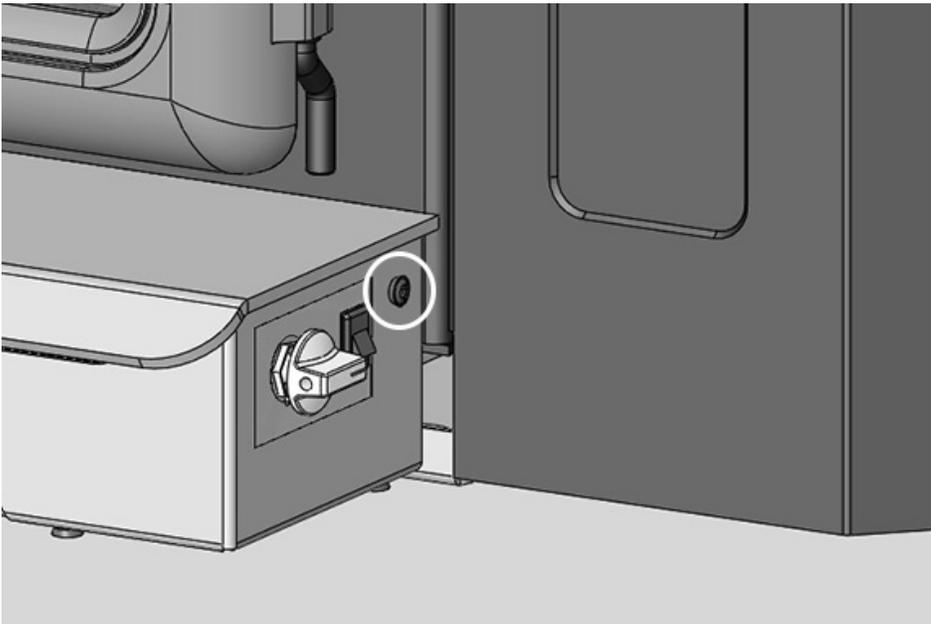

Figure 20: Remove Blower assembly.
2. Undo the screw on each end of the blower assembly then carefully slide the assembly out away from the unit. Figure 20 The power adapter wire is connected to the control so you only need to pull the Blower assembly out a few inches to access the Control Board.